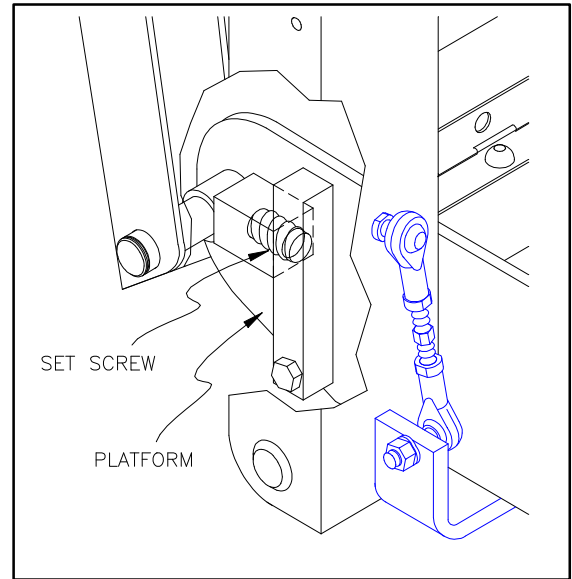

FIGURE 2-18: PLATFORM SET SCREWS
- Refer to **Figure 2-18**. Adjust left/right platform set screws until platform is level at zero (0) degrees. Turn set screws clockwise to angle front-end of platform upward, or counter-clockwise to angle front-end of platform downward.